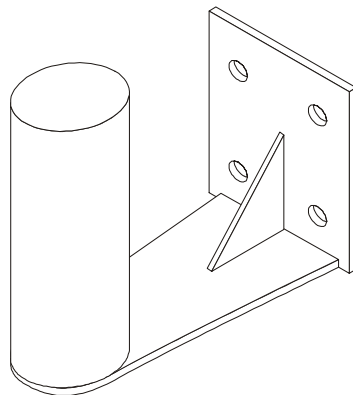

Figure B-3. Extension Arm
- One extension arm for wall installation (see Figure B-3)